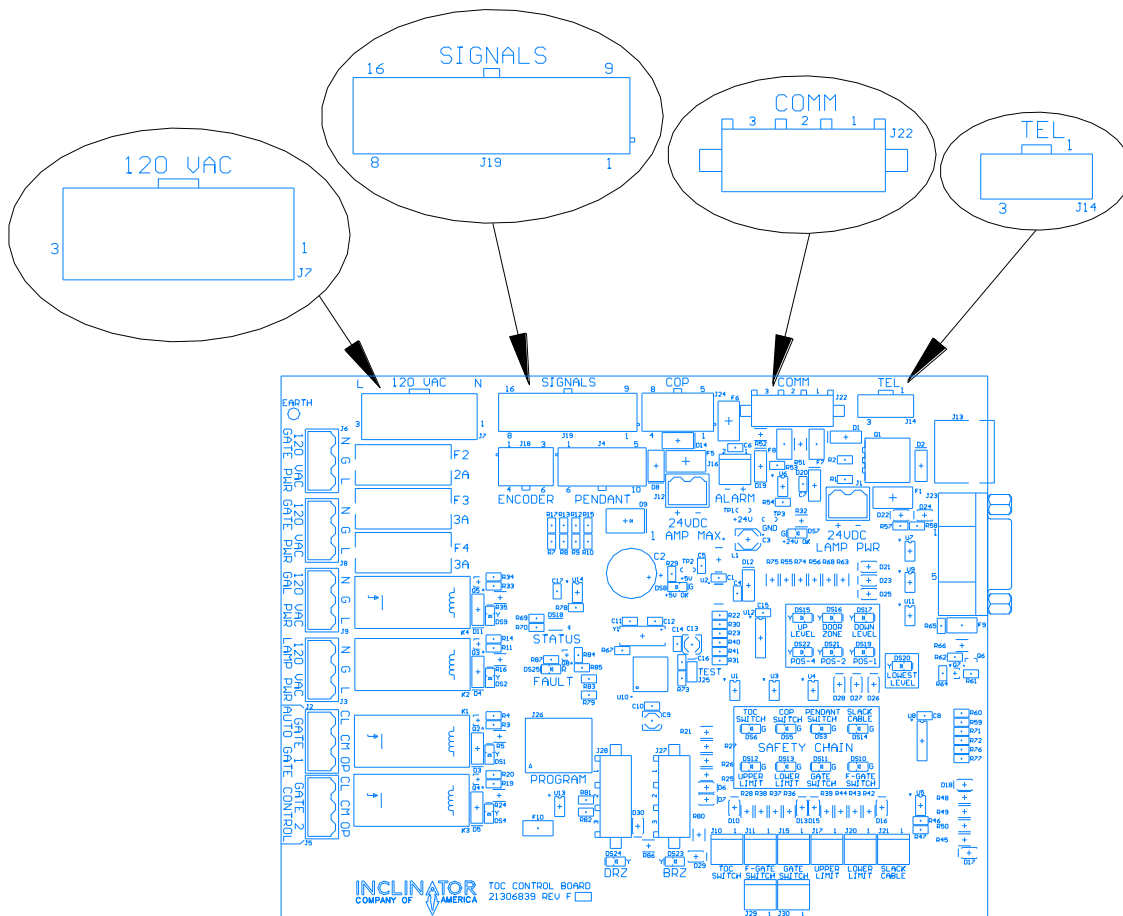

Figure 30 - TOC Traveling Cable Connections
2. Connect the Traveling Cable connectors to J14- "Telephone", J7- "120VAC Out", J22- "Comm", & J19- "Signals" on the CPU board. See Figure 30.